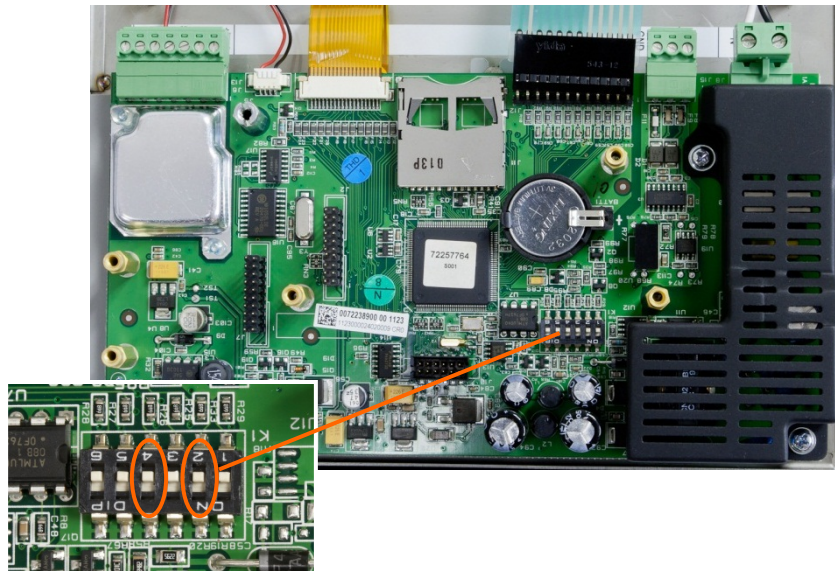

Figure 5-10: Switches SW1-2 and SW1-4
2. Place switch SW1-2 in the ON position, as shown in Figure 5-10.
- The position of SW1-4 (also shown in Figure 5-10) determines whether metrologically significant EEPROM data for scale calibration is reset when a master reset is performed. SW1-4 must be set to ON to reset EEPROM data. If SW1-4 is set to OFF, metrological EEPROM data will **not** be affected by the master reset and the original calibration will persist.